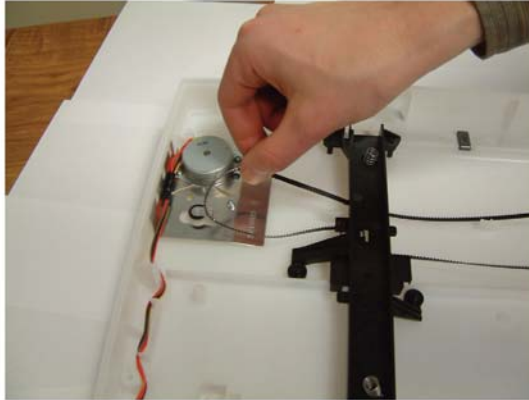

Figure 2
2. Remove the belt from the drive pulley, Figure 2.